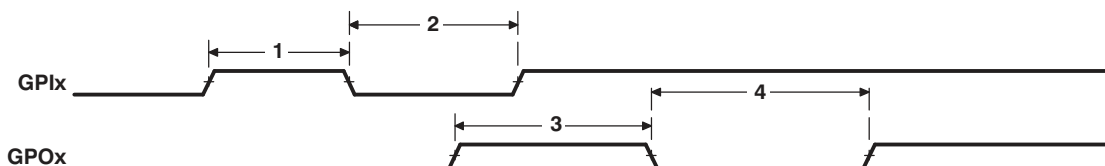

Figure 6-11. GPIO Port Timing
**Table 6-13. Timing Requirements for GPIO Inputs (see Figure 6-11)**
(see Figure 6-11)